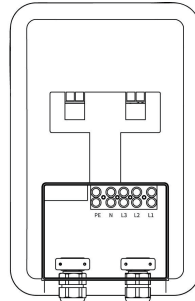

Fig. 5
2) Wiring(Fig.5)
- ① Plug-in. Plug the cable in the socket and power the device;
- ② Hard wiring. A professional electrician is required to operate hard wiring.